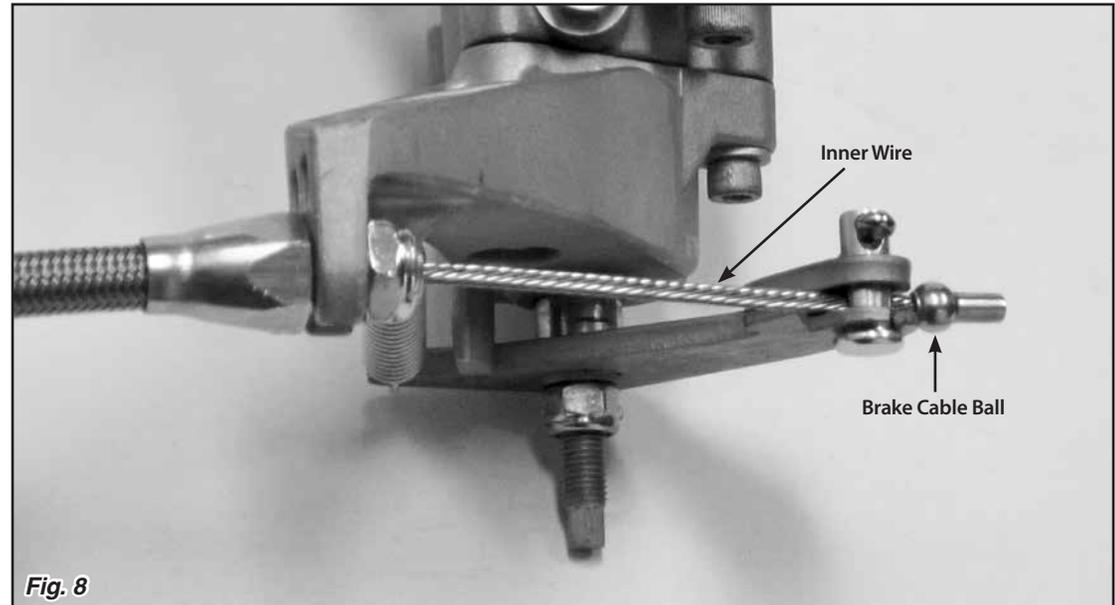

Fig. 8
Step 8: Feed the bare end of each inner wire (the end without the ball end on it) through the hole in the center of the 5/16" two-holed clevis pin and into the cable housing. Continue to feed each inner wire through the cable housing until the brake cable ball on the end of each inner wire reaches the 5/16" two-holed clevis pin. **Fig. 8**
See **Figs. 8, 9, 10, and 11** for completed installations.